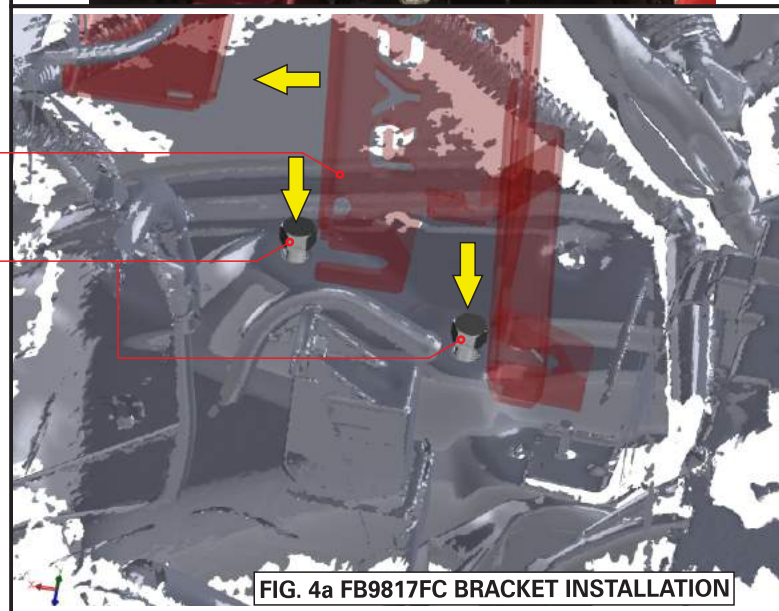

FIG. 4a FB9817FC BRACKET INSTALLATION
7. Mount the Ryco FB9817FC bracket using the same mounting points and bolts from the OE bracket you just removed: Half screw in 2 of the OEM M8 bolts in to the base mounting points as shown in Fig. 4a. (Screw in enough to allow Ryco FB9817FC bracket to slide in under the bolt heads).